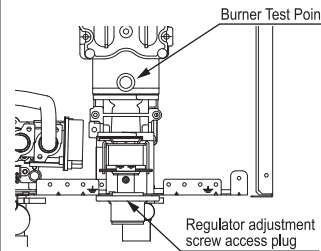

Fig. 2
5. Attach pressure gauge to burner test point, located on the gas manifold. (Fig. 2).